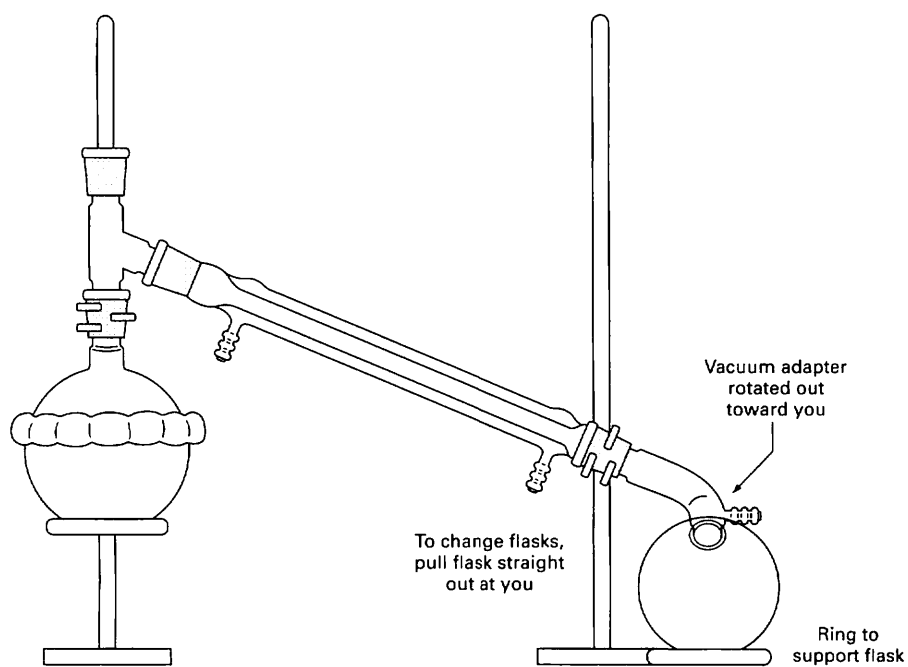

Fig. 94 Distillation setup with receiving flask rotated toward you.
8. At this point, you have two clamps, one holding the distilling flask and the other at the end of the condenser/vacuum adapter (Fig. 94).
- a. The receiving flask will not fit vertically from the end of the vacuum adapter to the benchtop (Fig. 94). Easy. With the vacuum adapter clamp **relaxed** (not so loose that the adapter falls off!), rotate the adapter toward you. There's no reason it *has* to be at a right angle. Stick a receiving flask on the end, put a suitable cork ring under the flask, and that's it. Note that you can **easily** change receiving flasks. Just slide one off and slide another on.